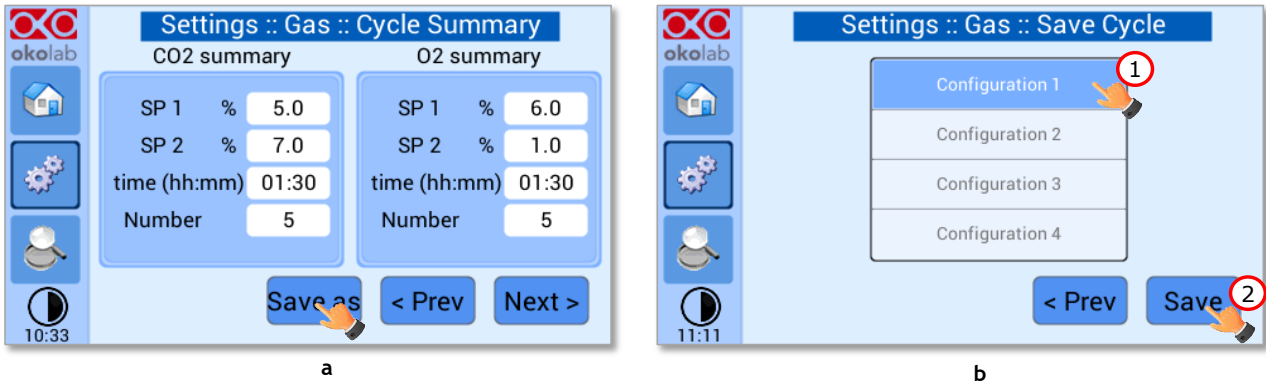

Figure 54. Cycle Summary and Configuration Saving (a - b).
- Once you have adjusted the settings, the *Cycle Summary* page will be displayed (see Figure 54 a). Press *Save As* if you want to save the CO₂/O₂ Cycle program to be recalled for future experiments.